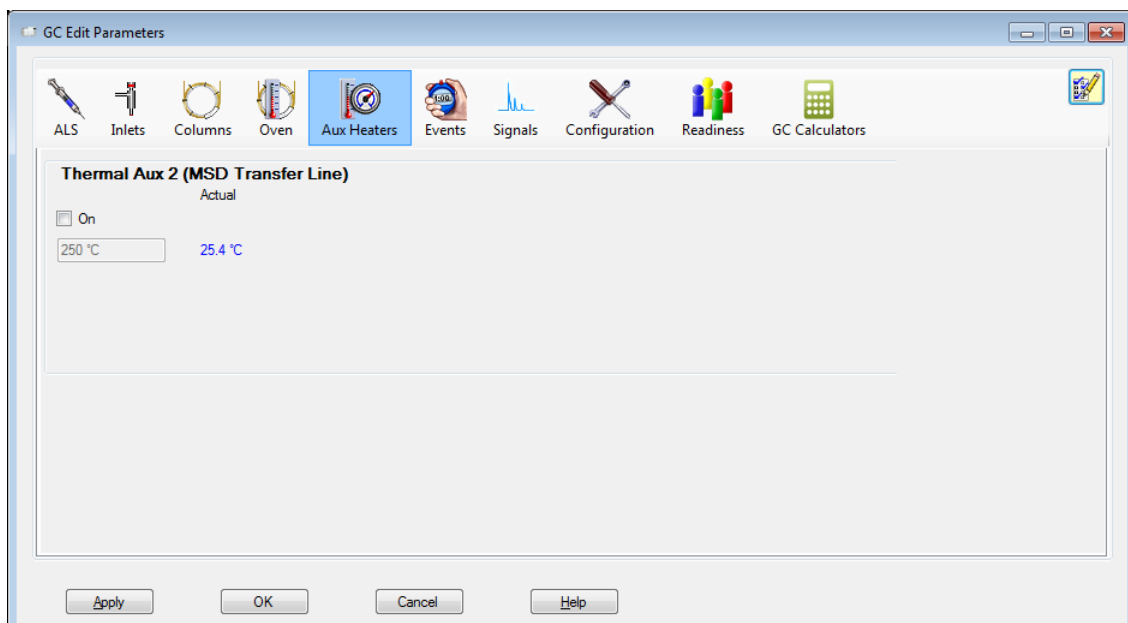

Figure 8 Setting the interface temperature
- 2 Click the **Aux Heaters** icon to edit the interface temperature (Figure 8). This example has the GC/MS interface temperature configured as **Thermal Aux 2**.